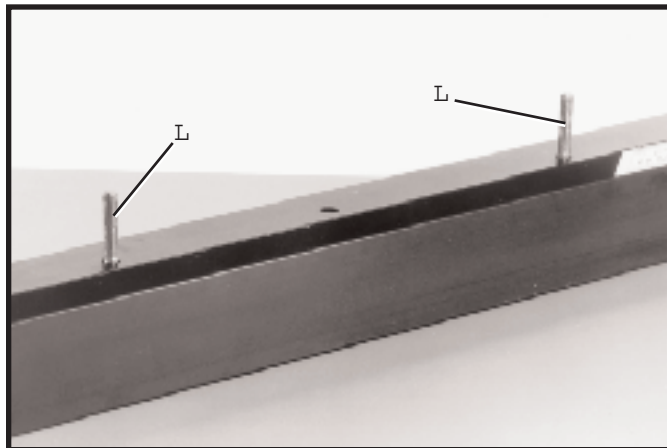

Fig. 30
17. Locate the two double threaded studs (L) Fig. 30, packed with the Unifence and thread the short fine threads of the studs (L), into the two hex nuts inside the channel of the guide rail, as shown.